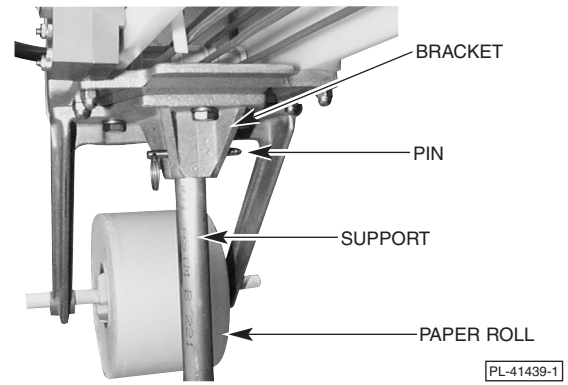

Fig. 3
4. Assemble the Hollymatic model 120 bulker to the Pedestal. To fasten the bulker to its pedestal, insert the pin through the hole in the bracket. The bulker can swivel 360°. Reassemble paper roll (Fig. 3).